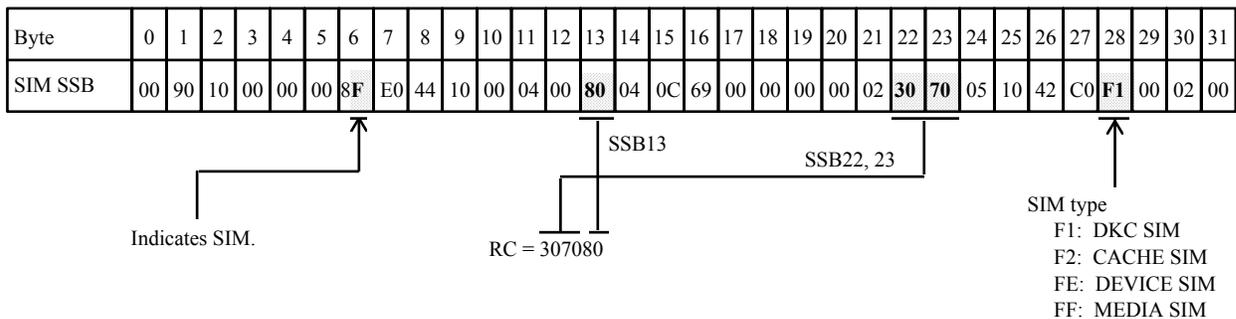

Figure 6.1 Typical 9900V SIM Showing Reference Code and SIM Type
Figure 6.1 illustrates a typical 32-byte SIM from the 9900V subsystem. SIMs are displayed by reference code (RC) and severity. The six-digit RC, which is composed of bytes 22, 23, and 13, identifies the possible error and determines the severity. The SIM type, located in byte 28, indicates which component experienced the error.